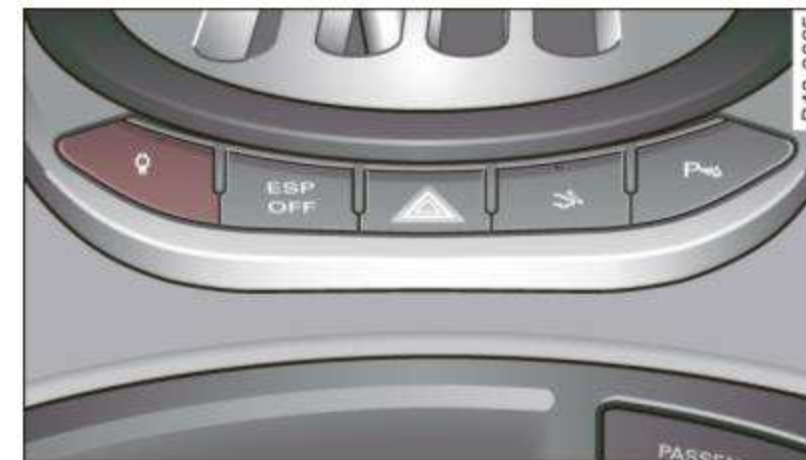

Fig. 68 Center console: Switch for Audi magnetic ride
- Press the switch ⇒ fig. 68 to turn sport setting on or off.